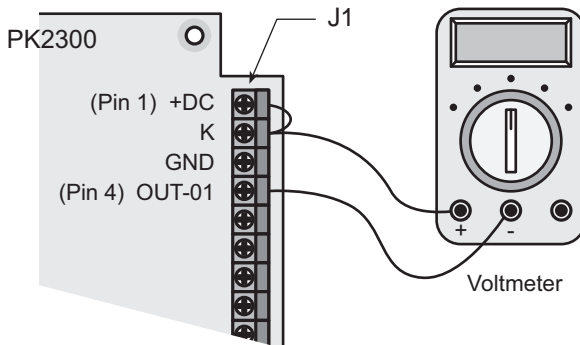

Figure 4-3. Example of Monitoring OUT-01 Status
4. Connect a wire between J1 pin 1 (+DC) and J1 pin 2 (K). Connect a device such as a voltmeter between J1 pin 4 (OUT-01) and J1 pin 2 (K), as shown in Figure 4-3. This allows you to monitor the status of the driver.